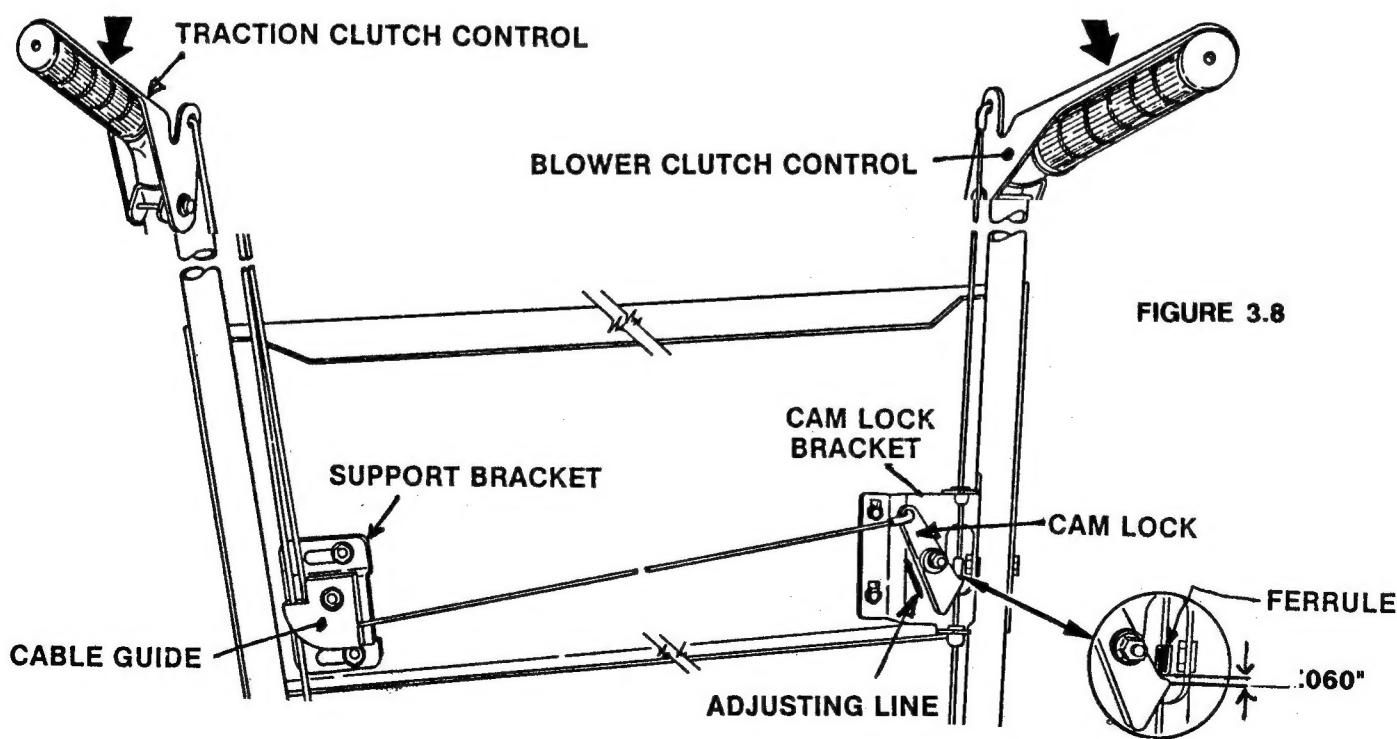

FIGURE 3.8
If the clutch controls need readjusting, turn engine off and reset as follows (Refer to figure 3.8):
(B) With the traction clutch held down, move the blower clutch control against handle and tie down in this position. The ferrule (shown in the inset of figure 3.8) must be located about $1/16$ " (.060" exact) above the hook of the cam lock. To adjust, loosen the 3 fasteners on the cam lock bracket and slide the bracket up or down until the setting is correct then retighten the 3 fasteners on the cam lock bracket and slide the bracket up or down until the setting is correct then retighten the 3 fasteners. Be sure to untie both handles after adjusting.